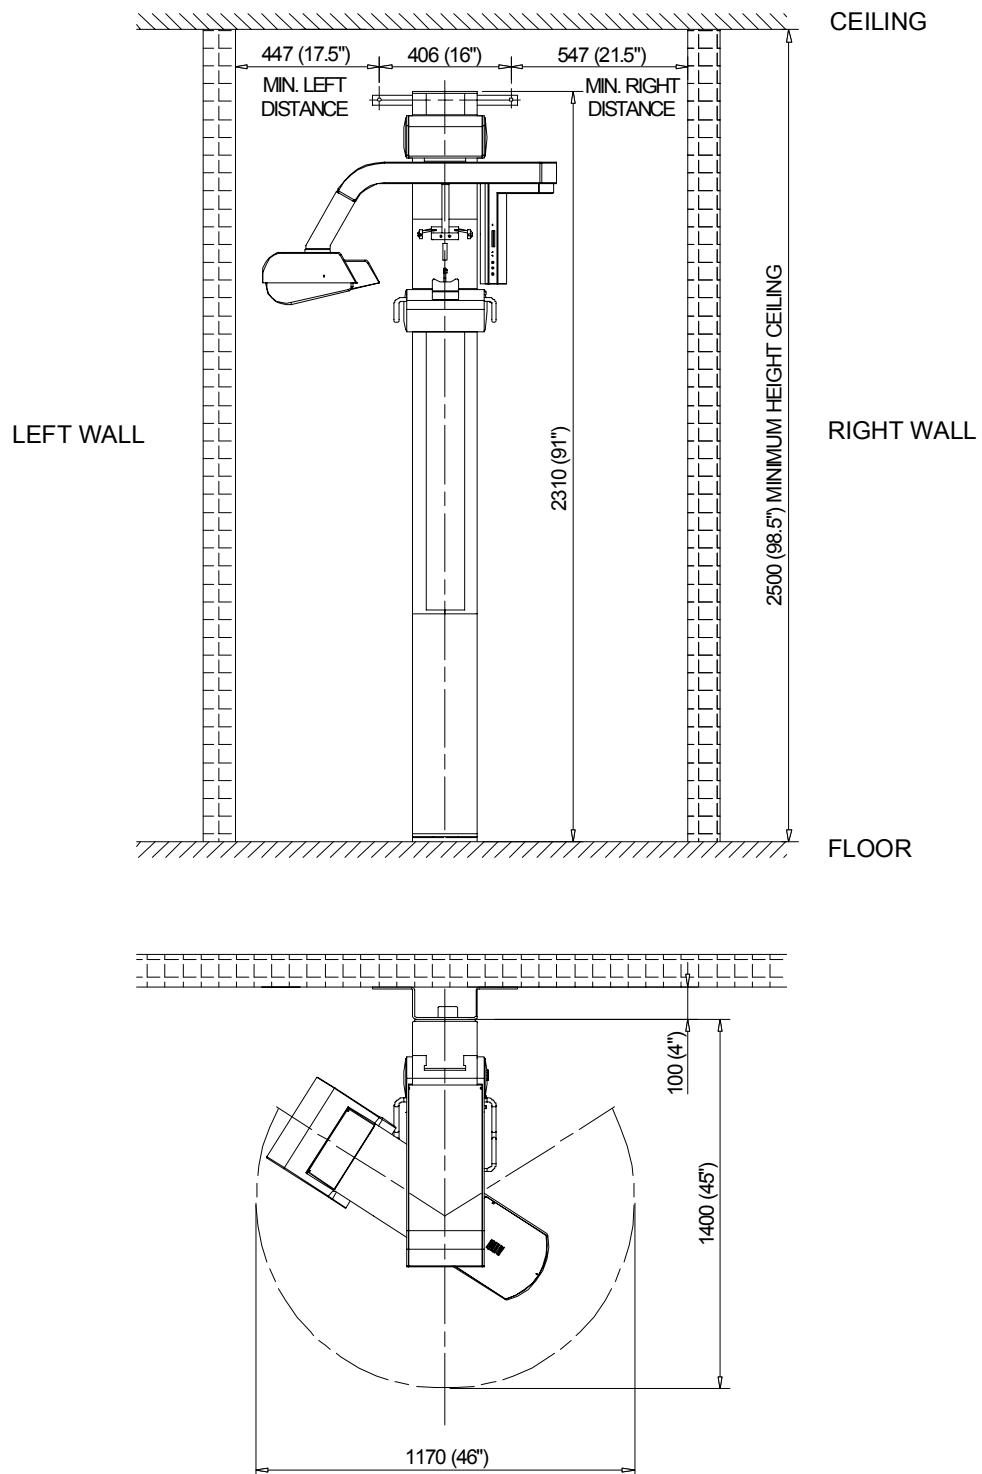

Figure 5-1
- A minimum room ceiling height of 8 ft (2.5 mt) and an area to accept the ROTOGRAF-D with its different configuration as showed in Figure 5-1.